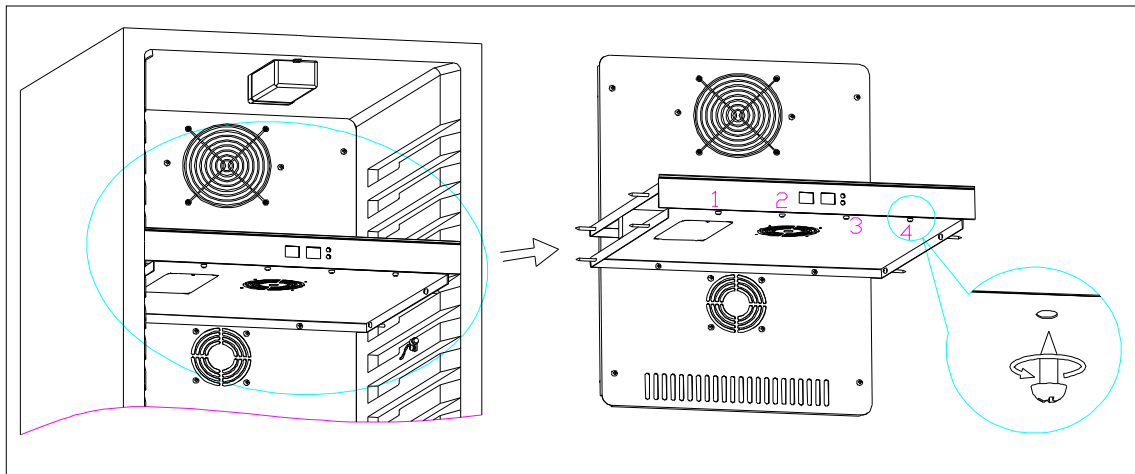

Fig.5
①The old structure electrical removement.
a.Remove the shelf, and remove the screw(1,2,3,4) of the middle air-duct cover(Fig.5).